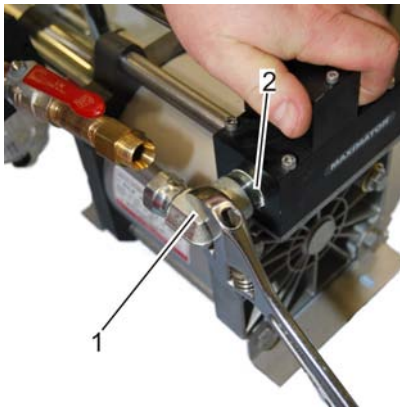

Fig. 31: Undoing the elbow union
4. ➔ Undo and remove elbow union (Fig. 31/1) of compressed air control unit or on drive air connection of control valve housing (Fig. 31/2).